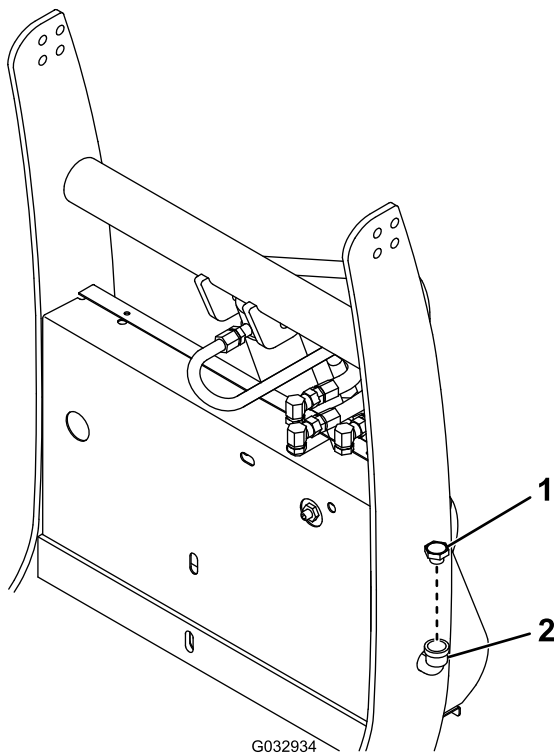

Figure 13
3. Remove the fill cap from the hydraulic reservoir (Figure 13).